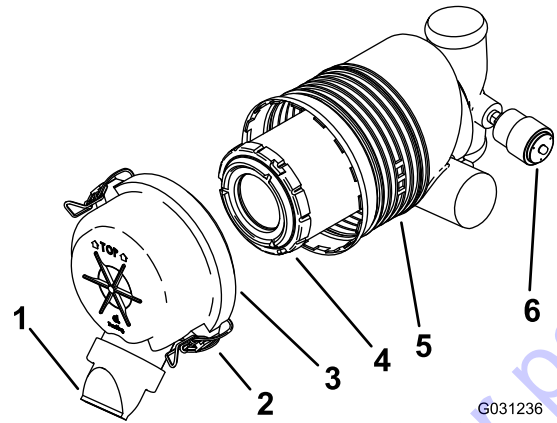

Figure 41
**Important:** Replace the air-cleaner filter only when the service indicator shows red (Figure 41). Changing the air filter before it is necessary only increases the chance of dirt entering the engine when you remove the filter.
5. Release the latches on the air cleaner and pull the air-cleaner cover off the air-cleaner body (Figure 41).
- If the service indicator is clear, install the air-cleaner cover with the dust cap oriented downward and secure the latches (Figure 41).
1. Gently slide the filter out of the air-cleaner body (Figure 41).
3. Carefully install the filter (Figure 41).
- Install the air-cleaner cover with the dust cap oriented downward and secure the latches (Figure 41).